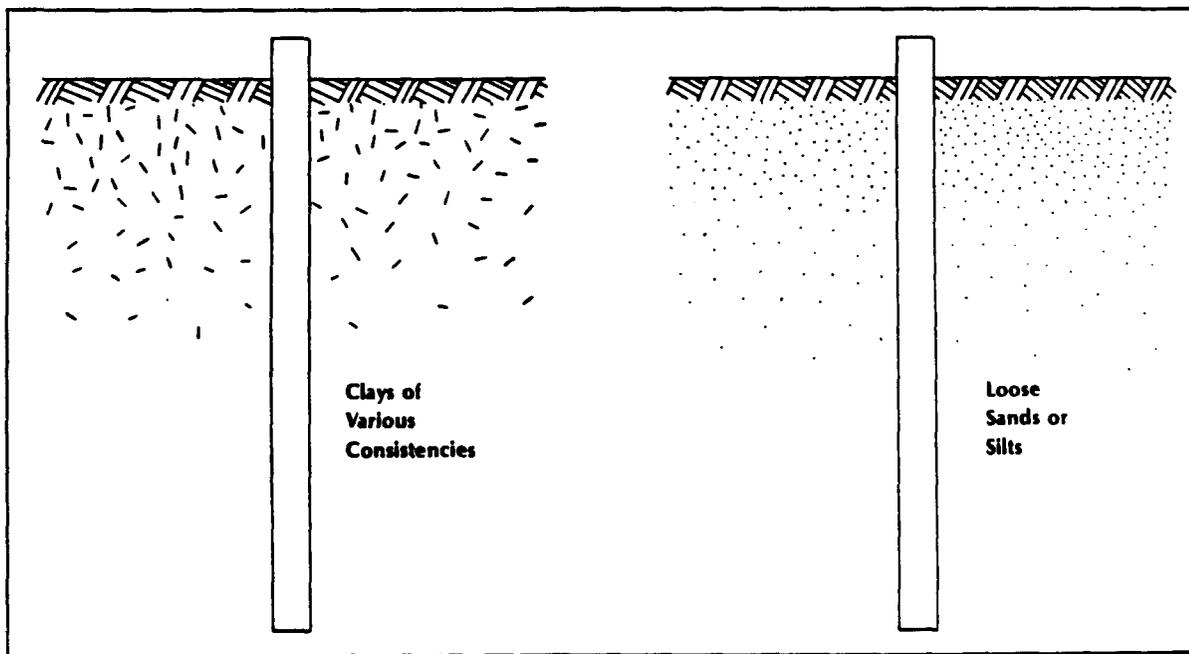
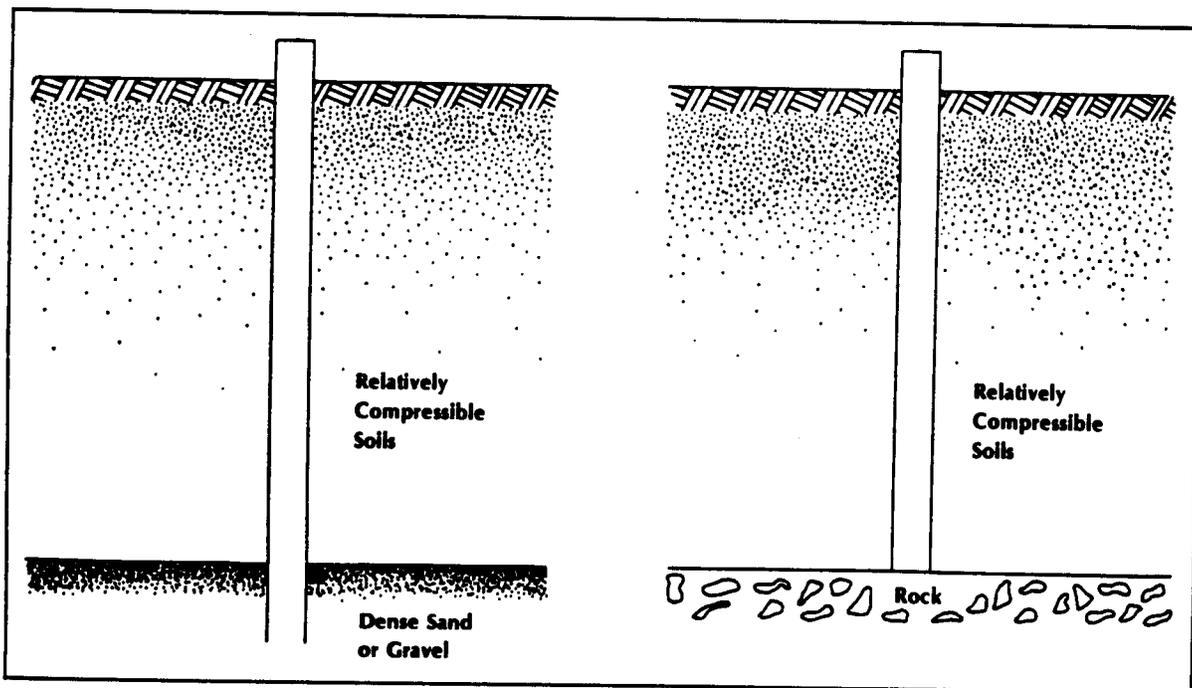

Figure 1-4 Friction piles
Figure 1-5 End-bearing piles
d. Friction/end-bearing piles. A pile embedded in soil with no pronounced bearing stratum at the tip is a friction pile (figure 1-4). A pile driven through relatively weak or compressible soils into rock or an underlying stronger material is an end-bearing pile (figure 1-5).